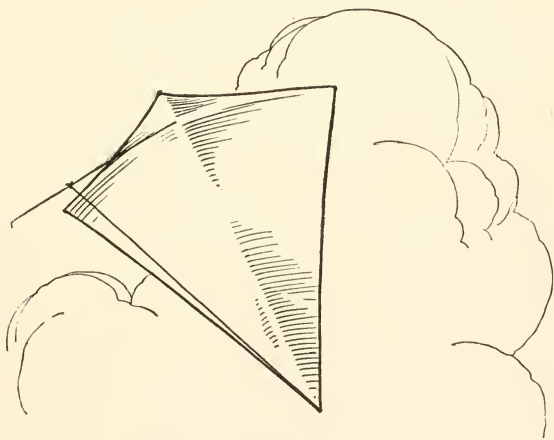

FIG. 17. — A Malay Tailless Kite.
**How to Make a Malay.** Figure 17 shows a Malay kite